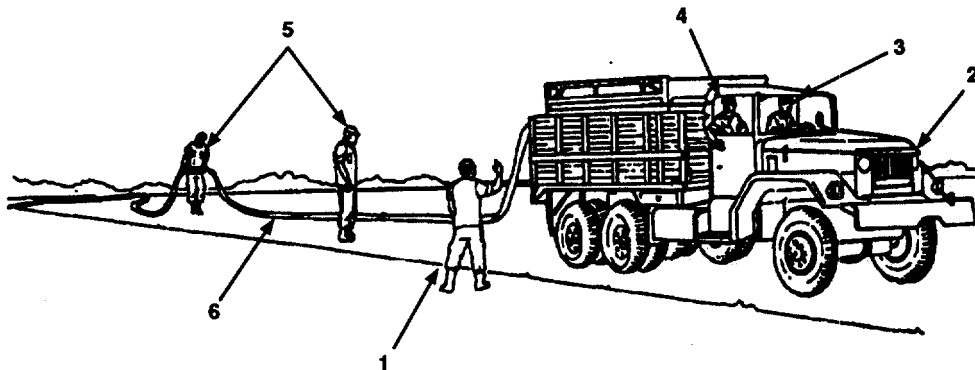

Figure 2-29. 10-Mile Hoseline Segment Installation.
- Supervisor (Figure 2-29, 1): One supervisor (1) is needed per truck (2) to oversee hose-laying operations. Should a problem develop during hose-laying operations, the supervisor (1) is responsible for contacting operators at pumping stations who are packing the hoseline.
- Driver (3): One driver (3) is needed to operate each truck (2).
- Assistant Driver (4): An assistant driver (4) is needed to observe hose-laying operation, tell driver (3) to speed up, slow down, or stop truck (2) depending on needs of the line walkers (5) who are straightening and